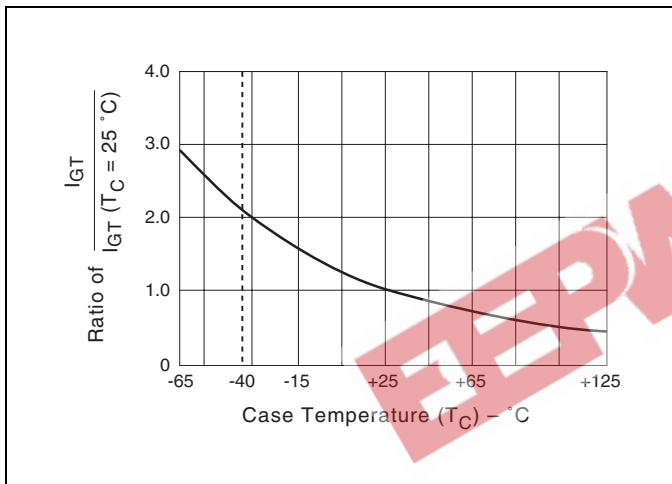

Figure E4.8 Normalized DC Gate Trigger Current for all Quadrants versus Case Temperature
- See Figure E4.8 for I_{GT} versus T_C .